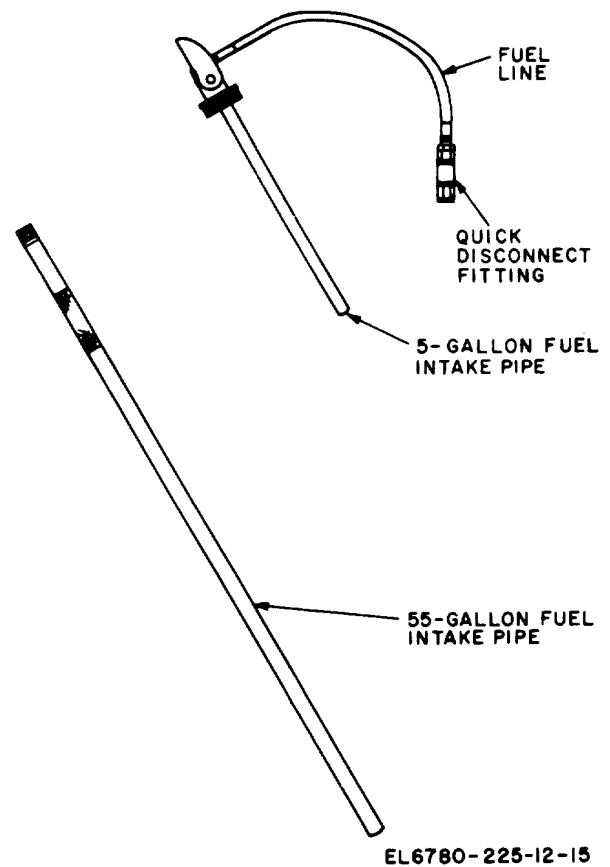
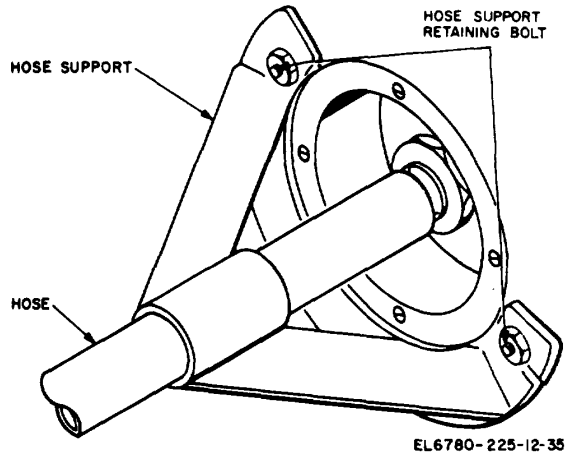

Figure 2-3. Fuel tank conversion.
Figure 2-4. Hose supports.
(2) Check that the fuel available is the same type as specified in paragraph 1-5h.
(3) Screw the 55-gallon intake pipe (fig. 2-3) into the compression plug.
(4) Insert the compression plug into the 55-gallon fuel drum and secure.
**Before making connection between the darkroom and a water source, install the hose supports (fig. 2-4) to the water and drain connections (fig. 5-1) by removing the hose support retaining bolts and installing the hoses in the hose supports.**